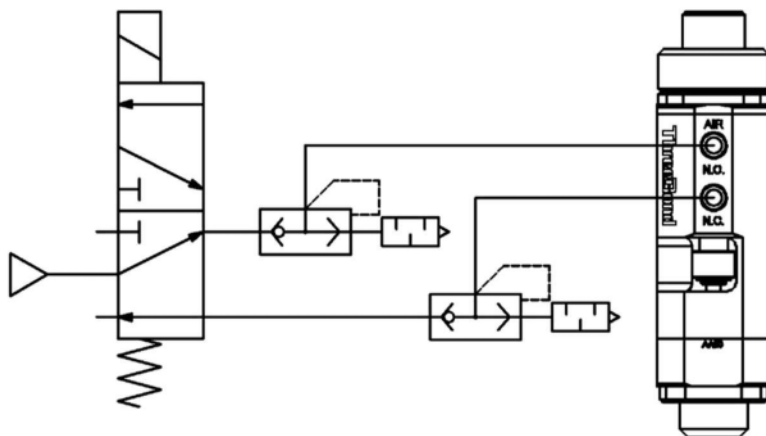

Fig. 7
- Connect an air hose to the connection port stamped “N.O.” and “N.C.” on the valve, respectively, as shown in the pneumatic circuit diagram (see **Fig. 7**).